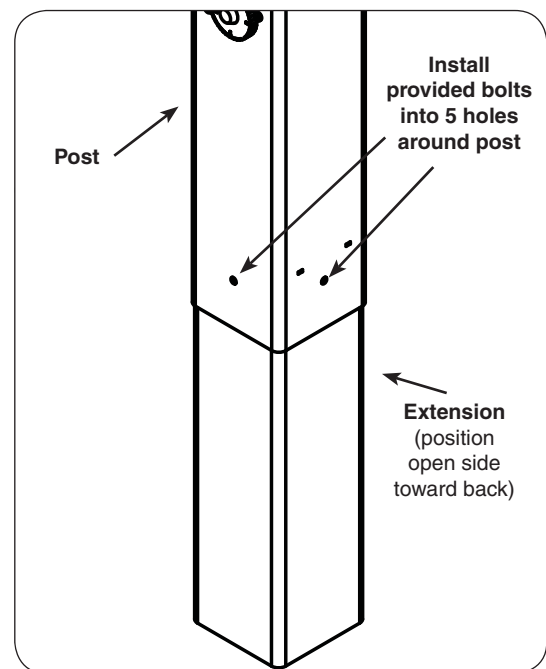

Fig. 14-3 Install extension to post
1. Attach the extension to the bottom of the grill post so that the open portion is toward the back of the grill and the five holes in the extension line up with the five (5) weld-nuts in the post (see Fig. 14-3).